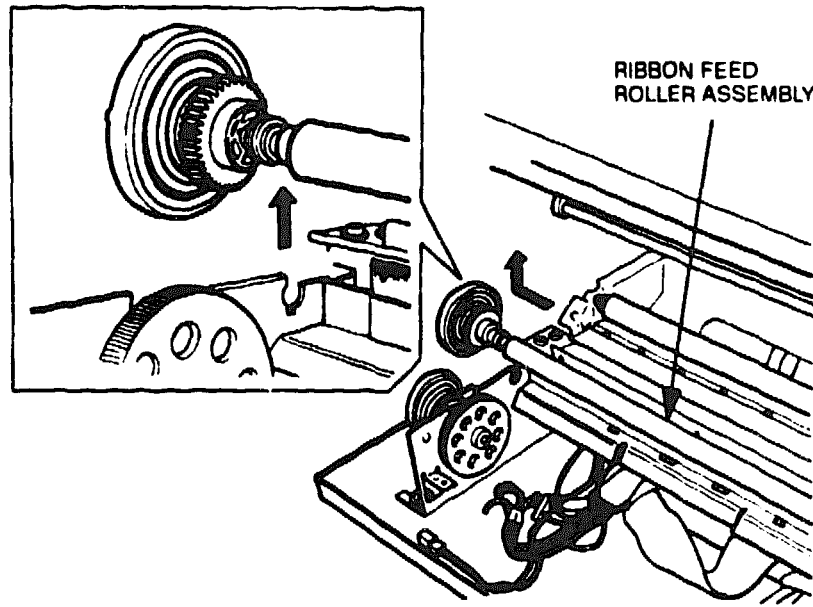

Figure 6-39 Ribbon Feed Roller Assembly Removal
5. Using a flat tip screwdriver, remove the E retaining ring and the bushing on the right end of the ribbon feed roller (see Figure 6-39). Then slide the ribbon feed roller to the left and remove the assembly from the printer.